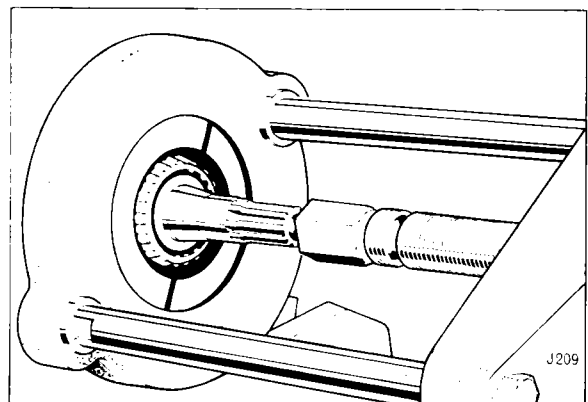

Fig. 39. Withdrawing pinion head bearing
Remove the split pin (55), nut (56) and plain washer. Withdraw the flange (57) from the pinion (67) and drive the pinion from the casing. Carefully keeping all shims intact, remove these and the spacer (61) from the pinion. Extract the pinion head bearing and selective spacer (66) using Tool No. S4221A-4A as shown on Fig. 39.